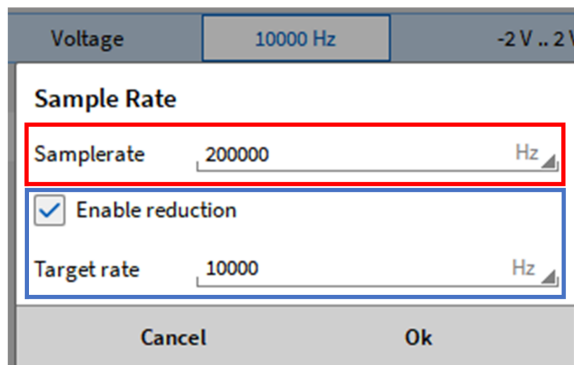

Fig. 7.37: Channel-wise sample rate settings
This chapter shortly explains the working principle behind the channel-wise sample rate selector. The samples are physically sampled with the set sample rate, which is defined in the channel list (red box in Fig. 7.37). If the reduction is enabled the user can set a reduced sample rate (blue box in Fig. 7.37) which is converted to an integer divider in the background and unnecessary samples are skipped
- Individual points to specify x- and y-values can be added by clicking on the + button (see Fig. 7.37)